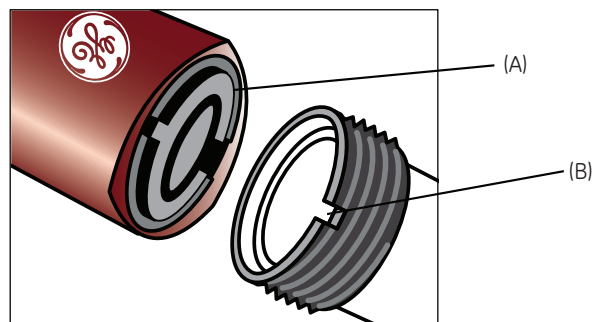

Fig 9. (A) Adapter unit and (B) slot on column tube threads.
7. Screw the guiding ring inside the adapter unit down to its end position so that it is level with the bottom of the adapter unit (Fig 9). Screw the guiding ring back 1.5 turns.